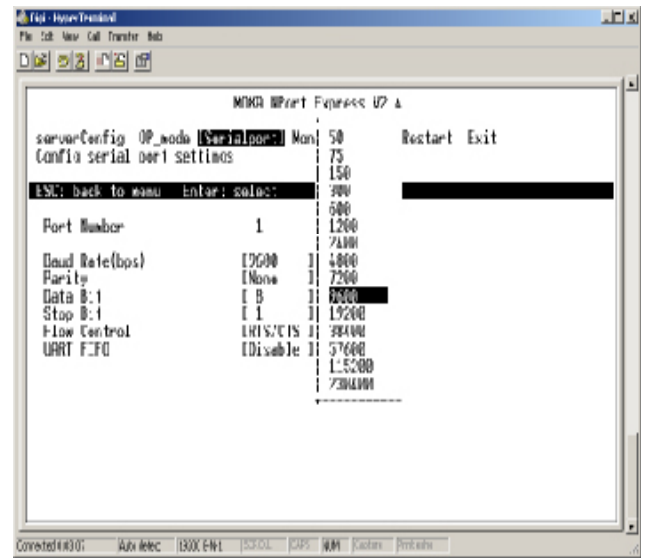

Figure 2-14
29. Using the down arrow key, select each of the following and press the **ENTER** key to change. **Figure 2-14**